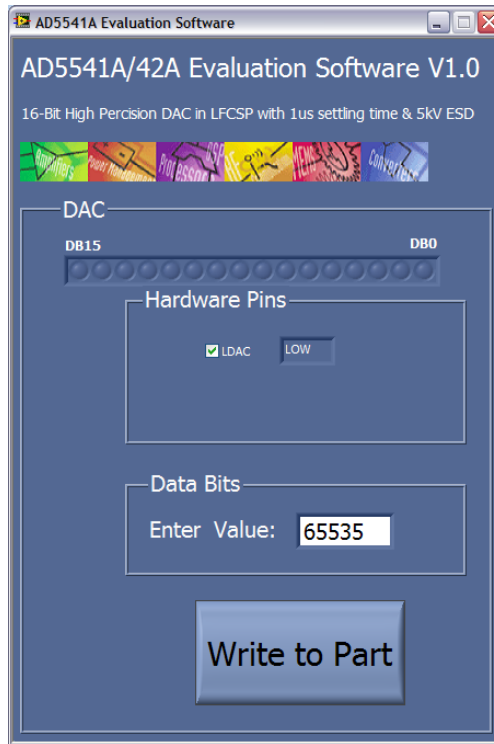

Figure 6. AD5541A/42AEvaluation Board Software Main Window
5. The device selection window opens, as shown in Figure 6 allowing the user to select the AD5541A or the AD5542A .
6. The main evaluation software window opens, as shown in Figure 6.
The AD5541A\_42A main window opens, as shown in Figure 6.